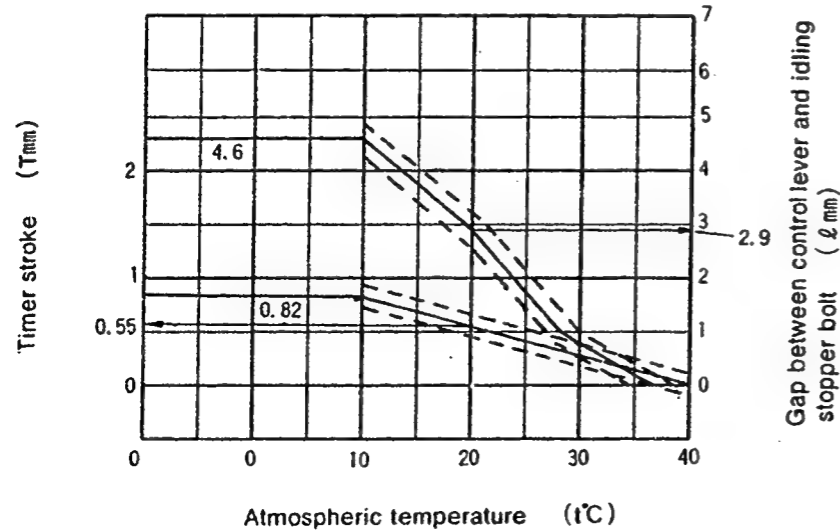

Fig. 2
1. Calculate the timer stroke from Fig. 2 according to the atmospheric temperature at the time of adjustment.
Formula for calculating Fig. 2:
1. Calculate the block gauge dimension $l \pm 0.05$ mm from Fig. 2 according to the atmospheric temperature at the time of adjustment.
2. Insert the block gauge (thickness gauge) selected in Step(1) above between the bracket and the idling stopper bolt.